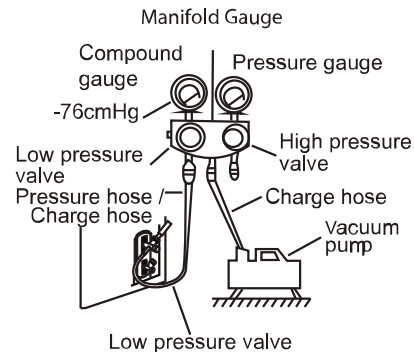

Fig. 40 — Manifold
3. Fully open the low side of manifold gage (see Fig. 40).